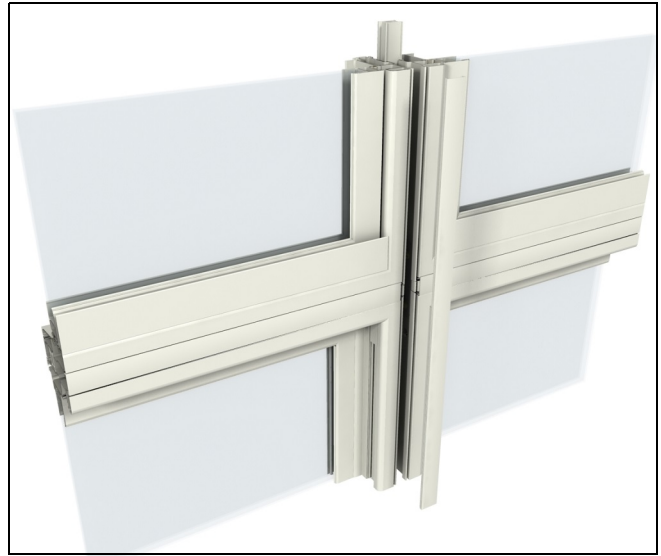

Figure 15
2. Mull and seal the two vertical sections. See Figure 15.